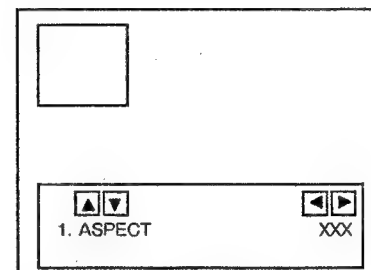

Fig. 7 PIP MODE
- 5) If the UP / DOWN KEY is pressed, the PIP MODE screen shown in Fig.7 is displayed and the PIP setting can be performed.